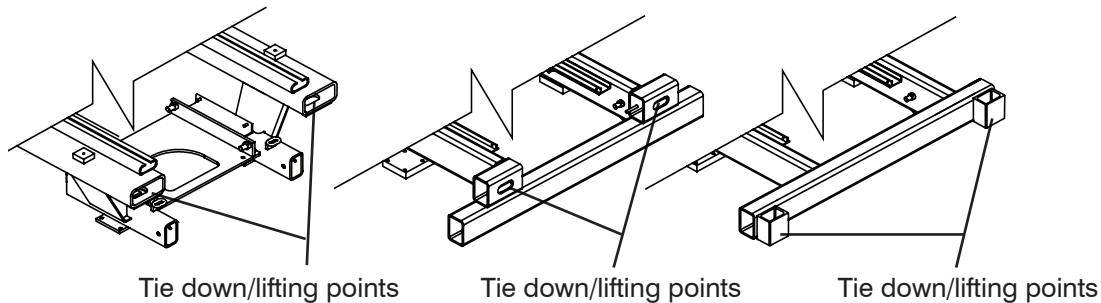

Figure 2-19. Tie Downs/Lifting Points
- The lifting/rigging may be attached to all four lifting points as illustrated in Figure 2-19.
When transporting, the aerial platform must be secured to the truck or trailer deck. Tie downs are available as illustrated in Figure 2-19.